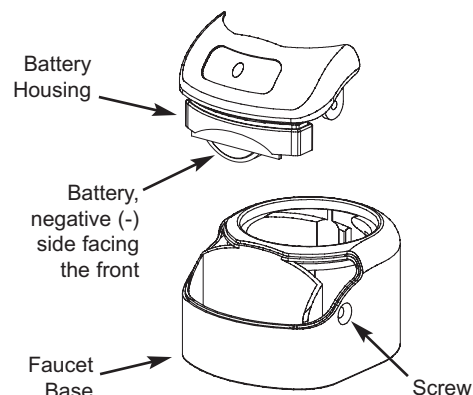

FIG. 30
1. Loosen the screw on the right side of the faucet base. See Fig. 30.
2. Press the battery housing upwards from the front faucet base until it releases from the faucet base. See Fig. 30.
5. Re-install the battery housing and firmly tighten the mounting screw. See Fig. 30.